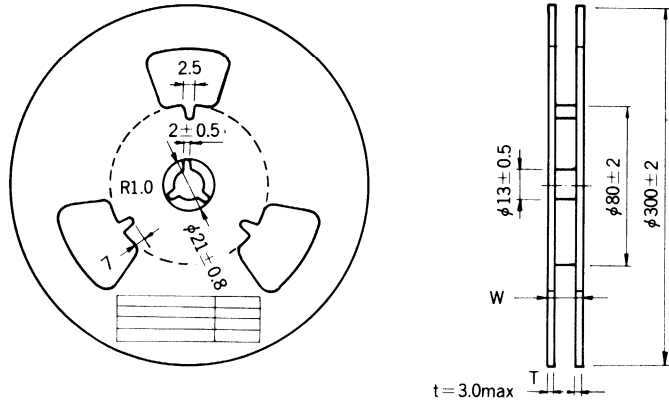

Fig. 9 Reel for embossed taping
(3) Seal tape dimensions
(4) Reel shape and dimensions (Fig. 9)